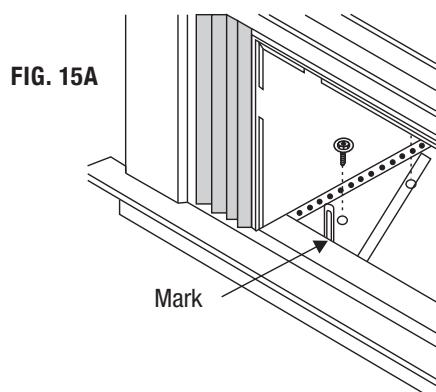

FIG. 15A
1. Hold each support bracket flush against outside of sill & tighten to bottom of cabinet, as shown in Fig. 15A. Mark brackets at top level of sill and remove.